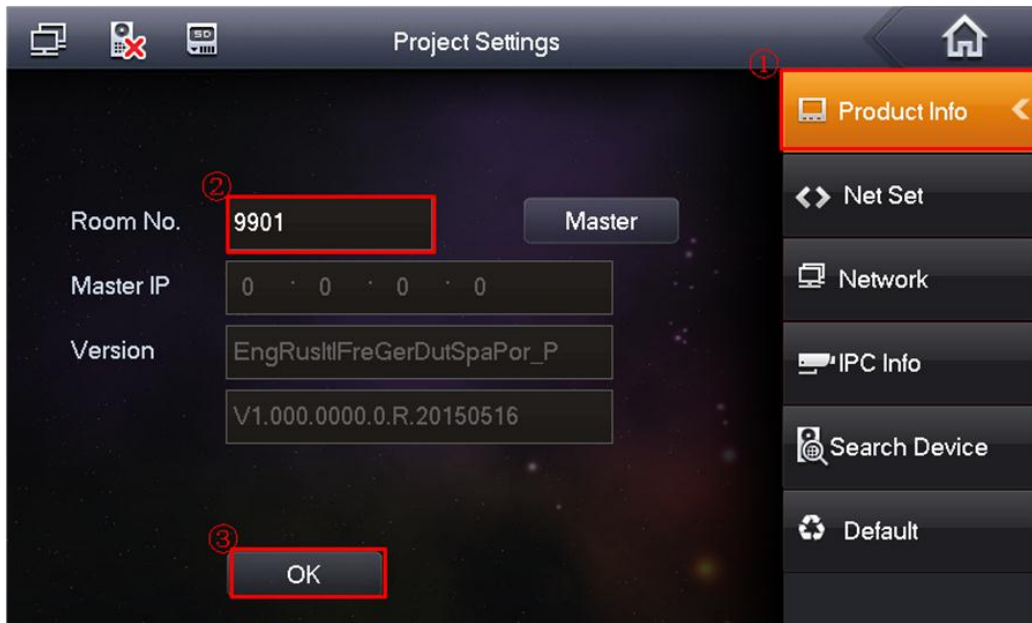

Figure 2-11
c) Set current VTH as the master VTH. See Figure 2-11.